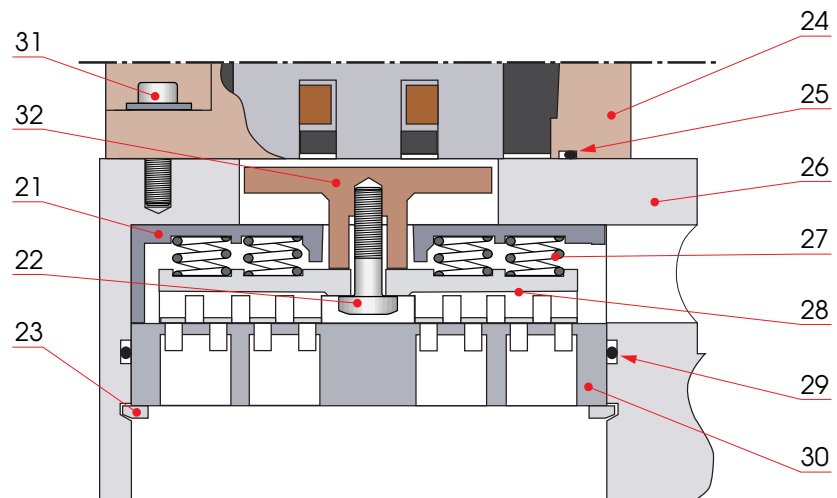

Fig 17-5
- 1 Unscrew the screws (31) and remove the coil (24).**
- 2 Remove the retaining ring (23), see Fig 17-5.**